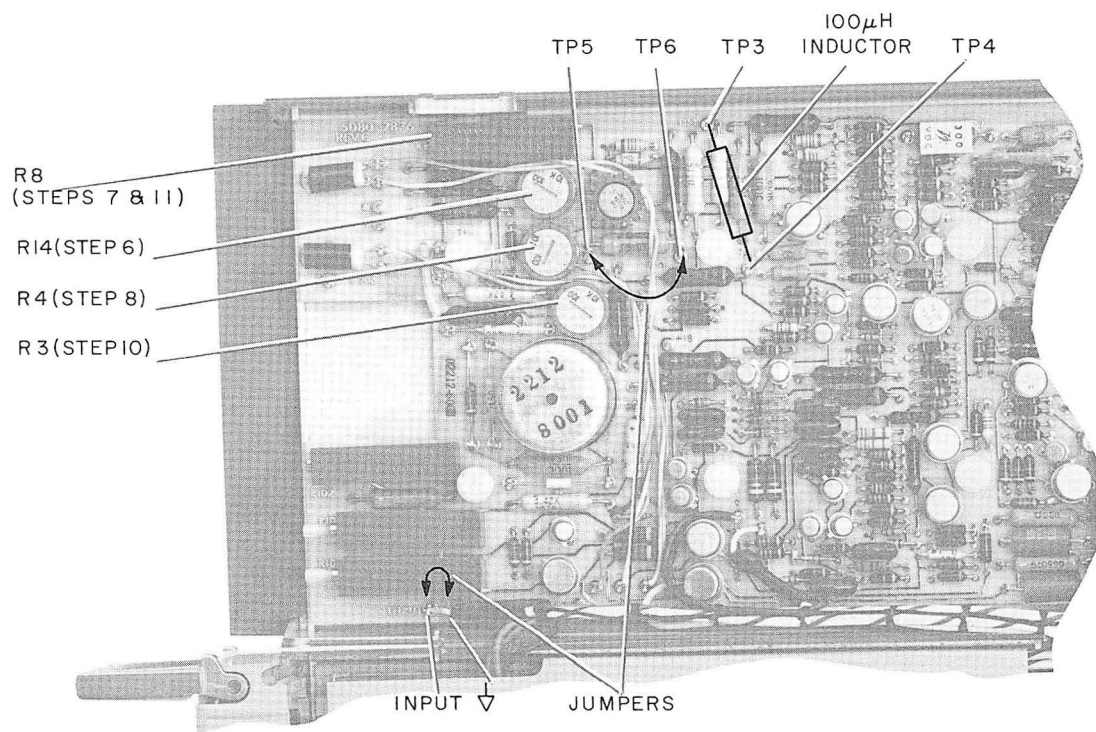

Figure 4-3. Setup for Zeroing A3
1. Connect setup as shown in Figure 4-3 and turn on all equipment.
If reading is greater than specification, but no more than five times specification (± 10 counts for 2212A without M2 or ± 25 counts for 2212A-M2), skip to step 10. If reading is more than five times specification, perform all of steps 5 through 11. See Figure 4-3 for locations.
5. Temporarily connect jumpers and 100 μ h inductor to the VFC circuit board as indicated in Figure 4-3.